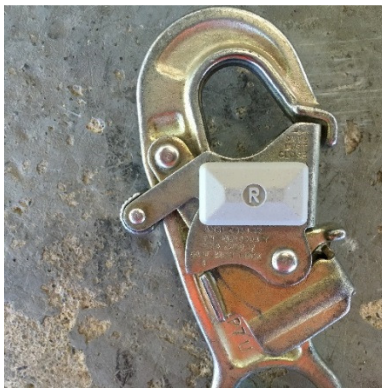

Figure 11
- Attach the lanyard magnets to the lanyard clip as shown in figures 11 and 12. The right magnet “R” mounts to the right side of the clip. The left magnet “L” mounts to the left side of the clip. For reference to right or left side of clip, hold the clip such that the opening of the clip is farthest away from you. Then when looking at the clip, its right side will be to your right and left side to your left illustrated in figure 13.